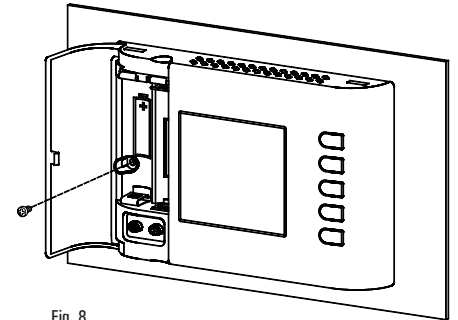

Fig. 8
- 5 Secure the body of the programmable thermostat to the wall plate using the supplied screw that is located inside the battery compartment (Fig.8).